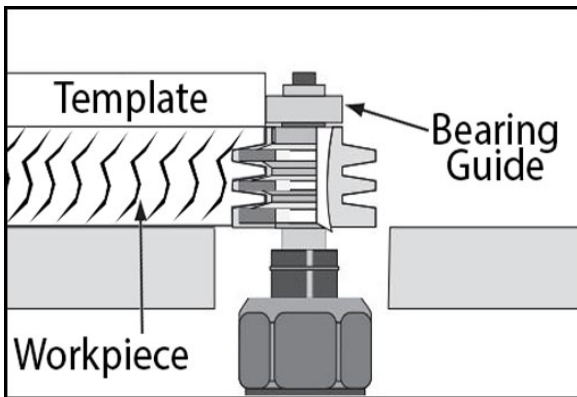

Figure 58
6. Install a router bit with a bearing guide as directed by the router manufacturer's instructions, then with the router lift, raise it to the desired height. (Fig.58)